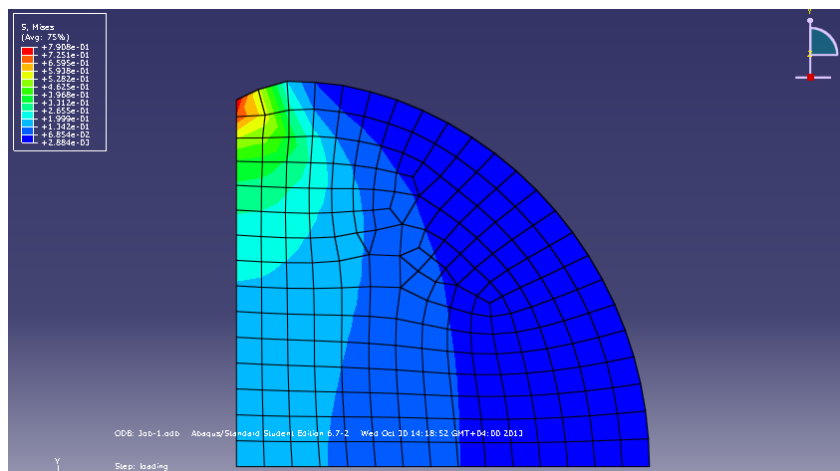

Figure 2
11. Prove that distribution of Mises stress for a diametrically squeezed disk will be as shown in the Figure 2.